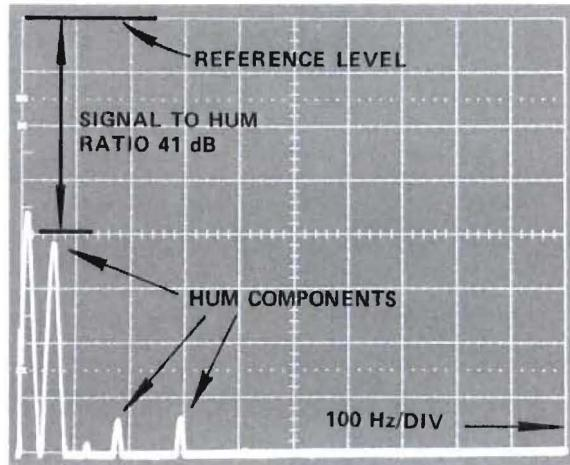

Figure 37 Example of S/N and Hum Measurements
5. The difference in amplitude (Figure 37) between the signal reference level and the noise floor, less a correction from the measured bandwidth (3 kHz) to the desired bandwidth (15 kHz), is the signal to noise ratio. The correction factor to be subtracted is 7 dB. Example: S/N equals VS minus VN minus Correction Factor; S/N equals 0 dB - 72 dB - (-7 dB) = -65 dB (S/N).
- Signal to hum ratio can be determined by measuring the amplitude difference between the Signal Reference Level (step 3) and any 60 or 120 Hz hum components. An example is shown in Figure 37.